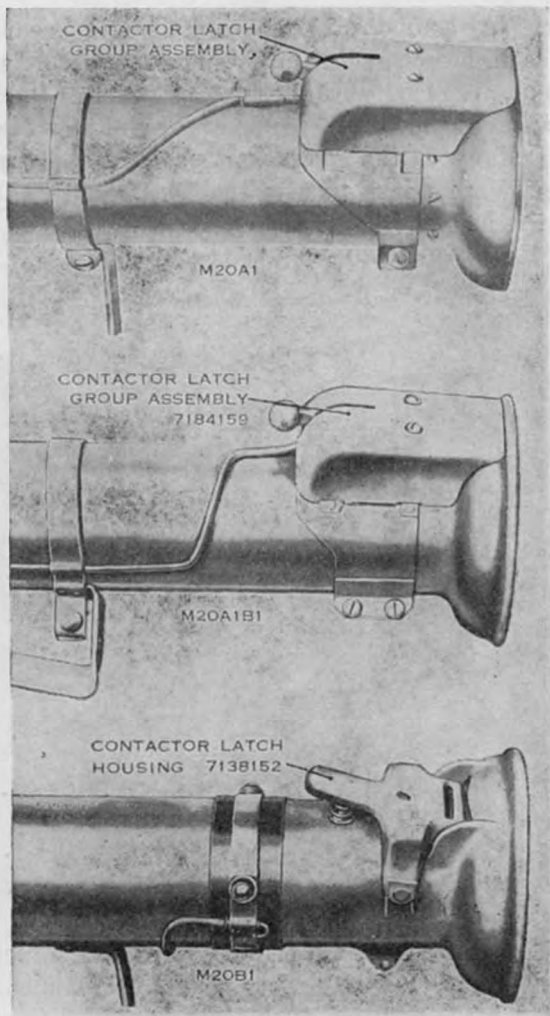

Figure 50. Comparison of breech end of 3.5-inch rocket launchers, M20A1, M20A1B1, and M20B1.
b. The difference between the M20 and M20B1 launchers and the M20A1 and M20A1B1 launchers (fig. 50) is the addition of the contactor latch group assembly on the latter. This replaces the contactor latch housing on the M20 and M20B1 launcher.